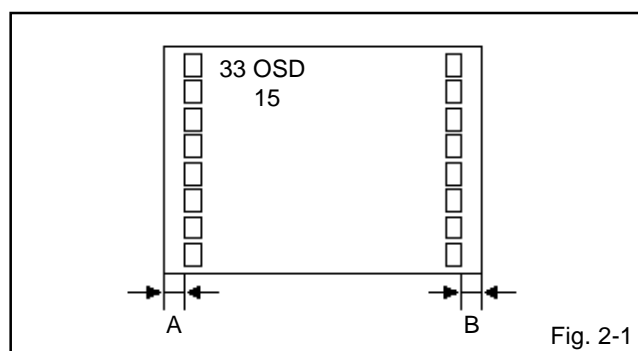

Fig. 2-1
2. Press the VOL. UP/DOWN button on the remote control until the difference of A and B becomes minimum. (Refer to **Fig. 2-1**)